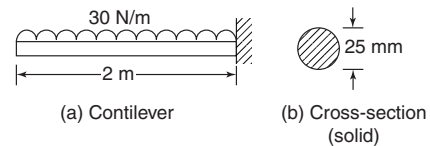

Figure 8.10
6. A cantilever of length 2 m, carries a uniformly distributed load of 30 N/m, as shown in Figure 8.10. Determine the maximum stress in the cantilever. [39.1 MPa]
9. If the beam of Figure 8.10 were replaced by another beam of the same length, but which had a cross-section of tee form,